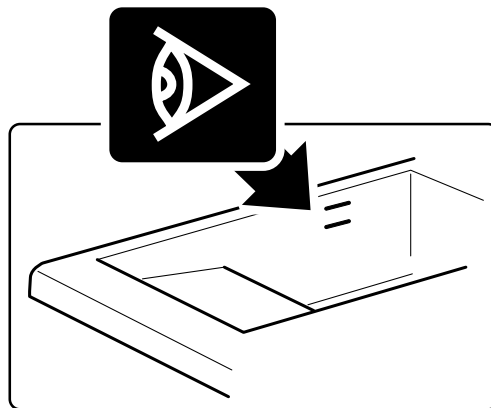

Fig. 5 Tank maximum/minimum filling level
- Always ensure that the oil level is between the **maximum** and the **minimum level** (indicated by the relief marks on the inside of the tank, see *Fig. 5 Tank maximum/minimum filling level*).
Always ensure that the oil level is between the maximum and the minimum level indicated by the relief marks on the inside of the tank (See Fig. 5 Tank maximum/minimum filling level).